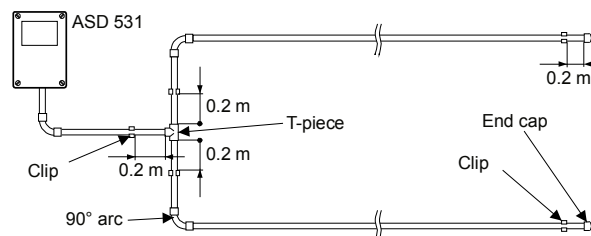

Fig. 23 90° bend, branching point
- A distance of at least 0.2 m must be maintained from the T-piece to the clips, starting from the branching points of the sampling pipe, **Fig. 23**.
- For changes of direction in the space surveillance, it is advisable to use 90° bends rather than 90° angles, **Fig. 23** (see also Sec. 4.4.2).